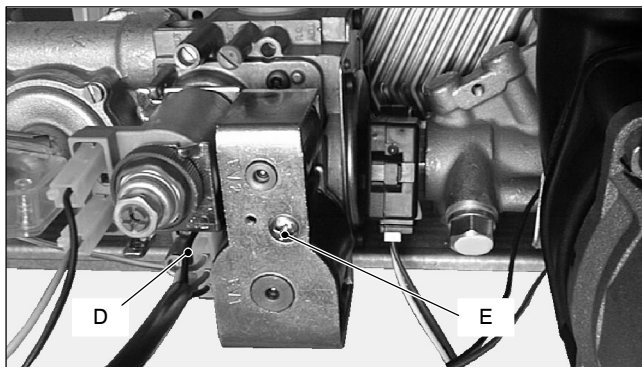

Fig. 44
- 2 Disconnect the connector *D* (Fig. 44).